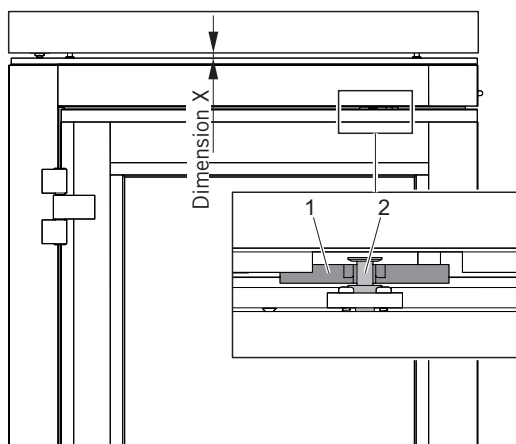

Fig. 30: Adjusting the holding fixture
- ▶ Turn the pressure plate upward if the holding fixture (Fig. 30/1) for the mushroom head (Fig. 30/2) extends beyond the mushroom head or if the dimension  $X > 20$  mm.
- ▶ Turn the pressure plate downward if the holding fixture (Fig. 30/1) for the mushroom head (Fig. 30/2) is located before the recess in the profile or if the dimension  $X < 20$  mm.